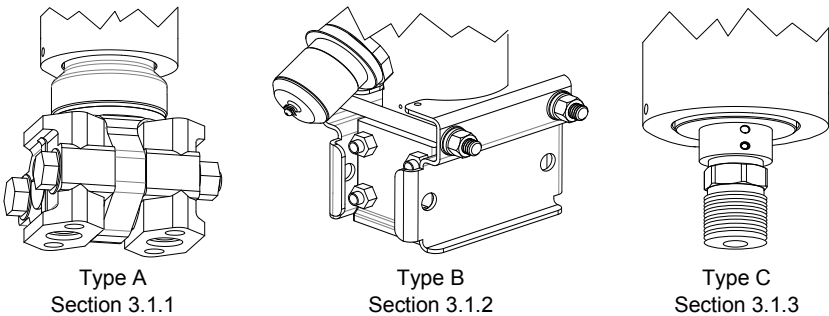

Fig. 2: Transducer Types/Mounting Options
2. The G4 EX will be mounted to the pole bracket in one of three ways based on the transducer supplied on the unit. Fig. 2 shows the three types of available transducers. Locate the picture that most closely matches the unit's transducer. Proceed to the associated instructions for mounting that unit type.